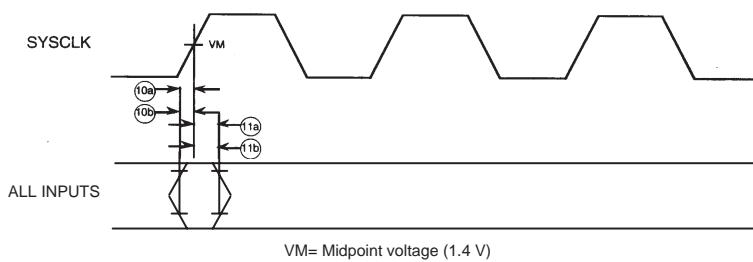
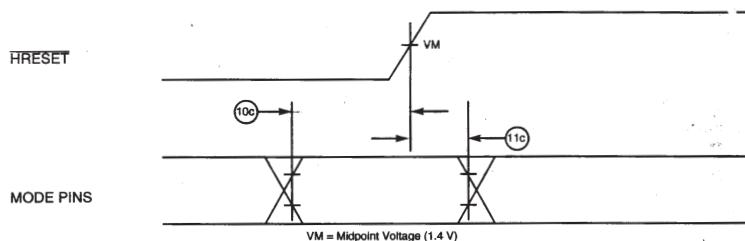

Figure 1 : Input timing diagram
Figure 2 : Mode select input timing diagram
Table 1 provides the input AC timing specifications for the 603e as defined in Figure 1 and Figure 2.
1. All input specifications are measured from the TTL level (0.8 or 2.0 V) of the signal in question to the 1.4 V of the rising edge of the input SYSCLK. Both input and output timings are measured at the pin. See Figure 2.
4. The setup and hold time is with respect to the rising edge of HRESET. See Figure 2.